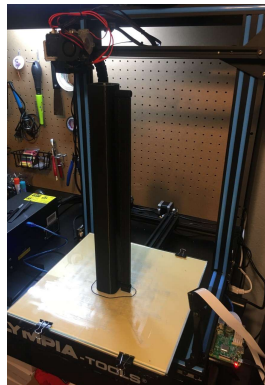

Figure 4: Model Being Printed
- The 3d printer then reads the gcode and the object is slowly created layer by layer (Figure 4).